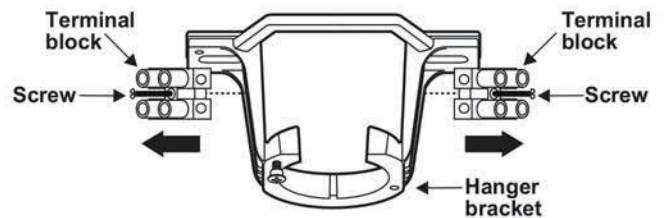

Figure 6
2. Remove the two terminal blocks from the two side of the hanger bracket and keep them for future use. (Fig. 6)